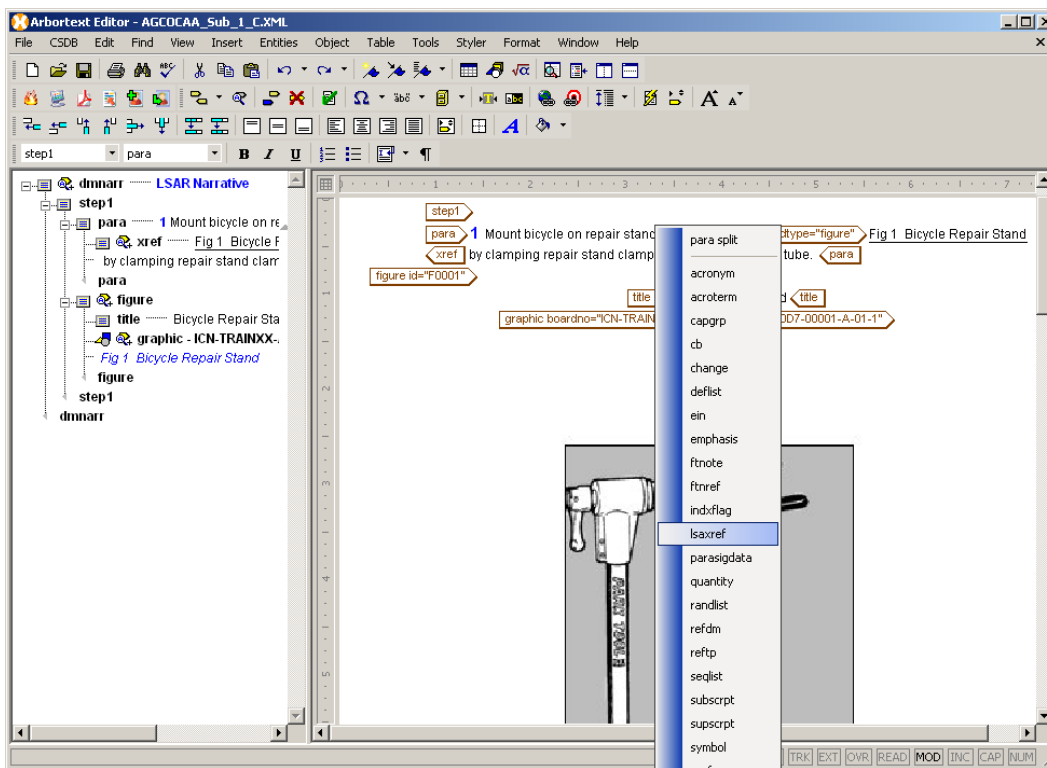

Figure 3. Adding an <lsaxref> Element.
- Choose the Enter key on the keyboard and right click on the Isaxref element as shown in Figure 3.